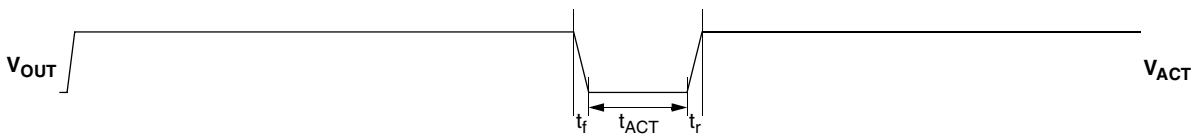

Fig. 5-4: Activate pulse
- Activate a sensor (see Fig. 5-4 on page 35)